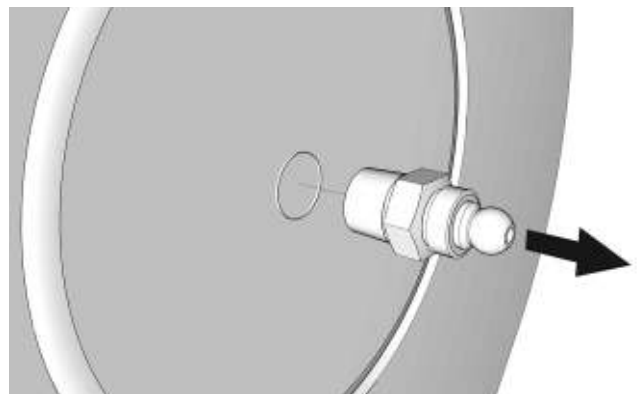

FIG. 2
2. Remove all grease zerks (FIG. 2).